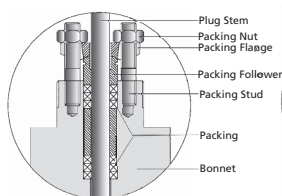

Figure 6
7.4 Packing Box (Figures 6 to 8)
- By means of a hooked instrument, remove packing (7) ensuring not to damage the sealing surfaces of the packing box or plug stem.
- Replace packing (7) referring to Figure 6 for correct amount of packing to place above the spacer.